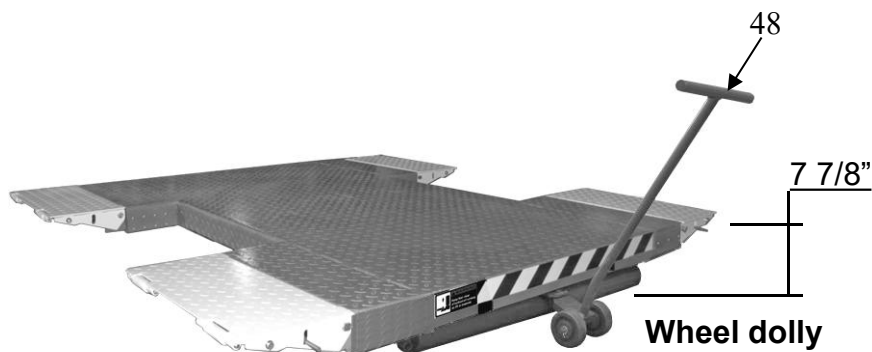

Fig. 19
4. Move the lift: Raise or lower the lift from 200mm to the ground, use the optional wheel dolly to move (**See Fig.19**)